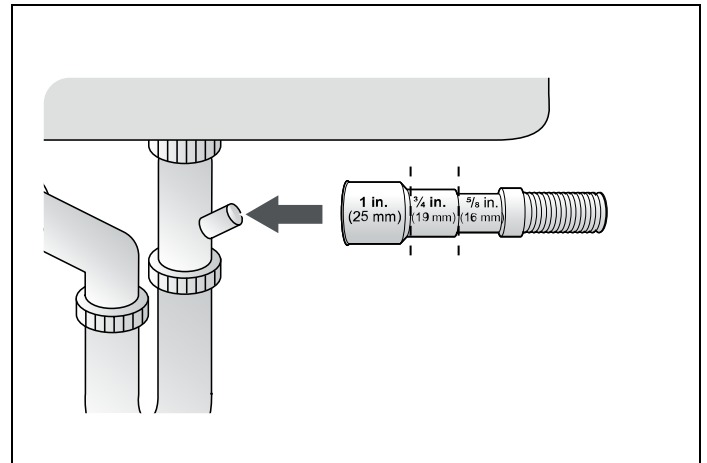

Fig. 16
- 3) Check the size of the sink drain hose connector. If needed, cut the drain hose so its end fits onto the sink connector (5/8", 3/4" or 1" - as shown in Fig. 16 ). If the end of the drain hose does not fit onto the drain hose connector of the sink, use an adapter purchasable at a plumbing/hardware supply store.